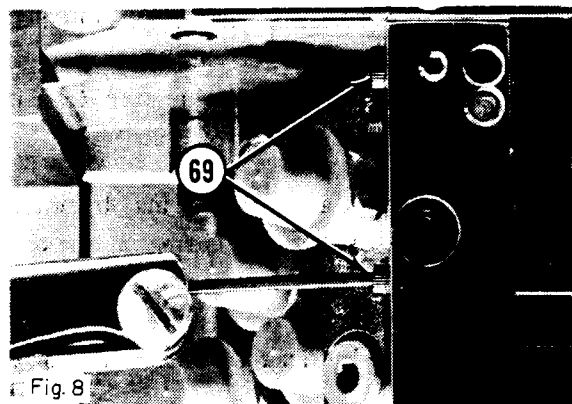
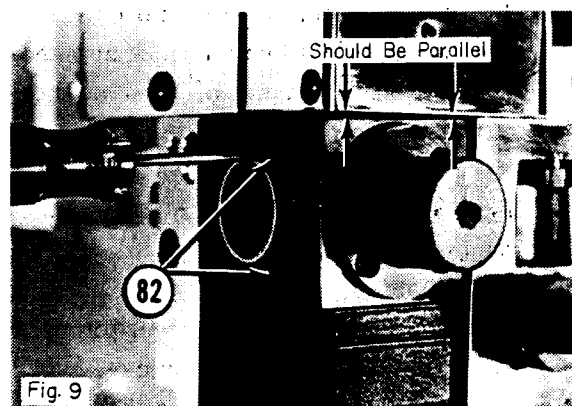

Fig. 8
Fig. 9
The Feed Direction Servovalve Assembly is held in position by two 6-32 socket head screws (69) as shown in Fig. 8. These screws have to first be loosened before any belt adjustment is attempted. Loosening of these screws should be limited to moving of the assembly only. After the two holding socket head screws are loose, the whole assembly may be adjusted by inserting an Allen wrench as shown in Fig. 9 into the openings provided for this purpose. There are two 10-32 setscrews (82) for this adjustment.
A good guide to follow in adjusting the belt is the slot between the Feed Direction Servovalve Assembly and the body proper of the Tracer Valve itself. Again in Fig. 9, this slot is shown as not being parallel. To correct this condition, the setscrews (82) have to be repositioned rotationally.
In Fig. 9, the left side of the slot is wider than the right side. Consequently, the upper setscrew would have to be backed out and the lower setscrew would have to be advanced, in order to correct this condition.